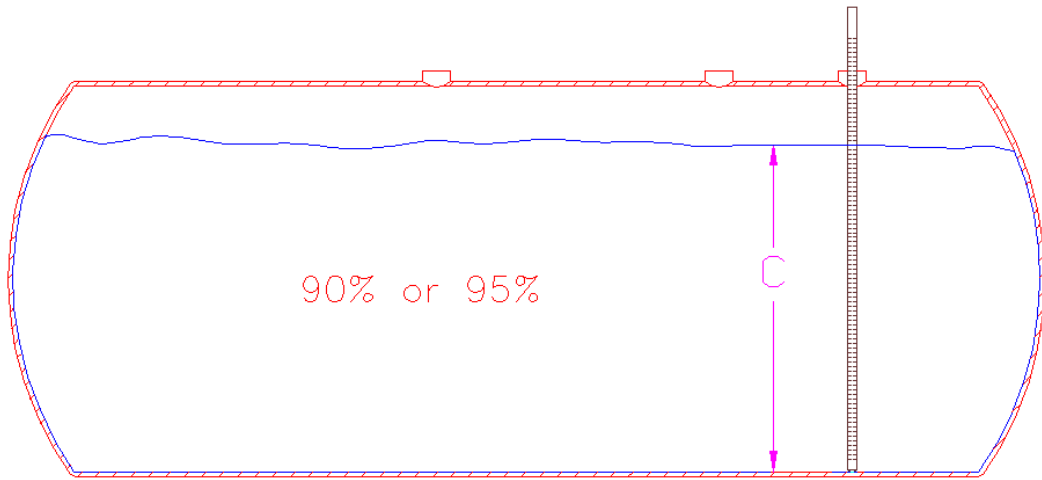

Figure 3 Height C for fill Capacity
2. Determine whether a 90% or 95% capacity fill is required and refer to the tank specification manual to locate the height of 90% or 95% capacity fill as shown in Figure 3.